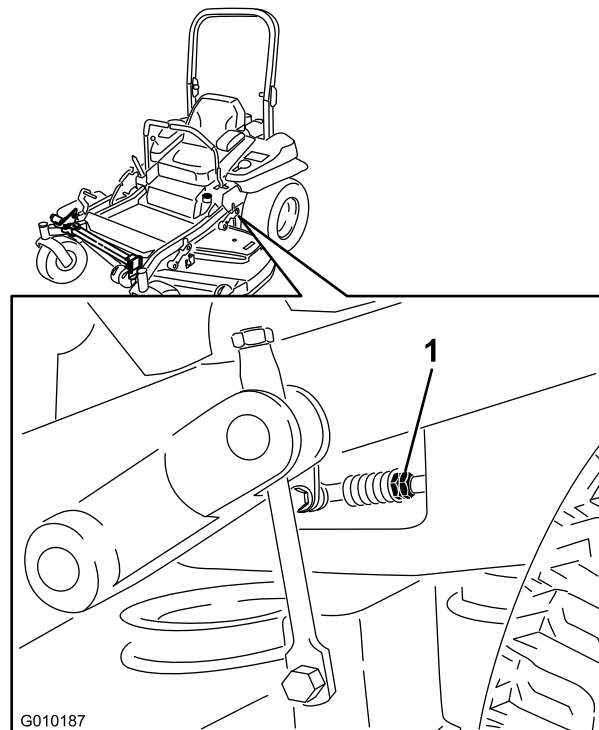

Figure 79
8. Adjust the pump-control rod lengths by rotating the double nuts on the rod in the appropriate direction until the wheels slightly creep in reverse (Figure 79).